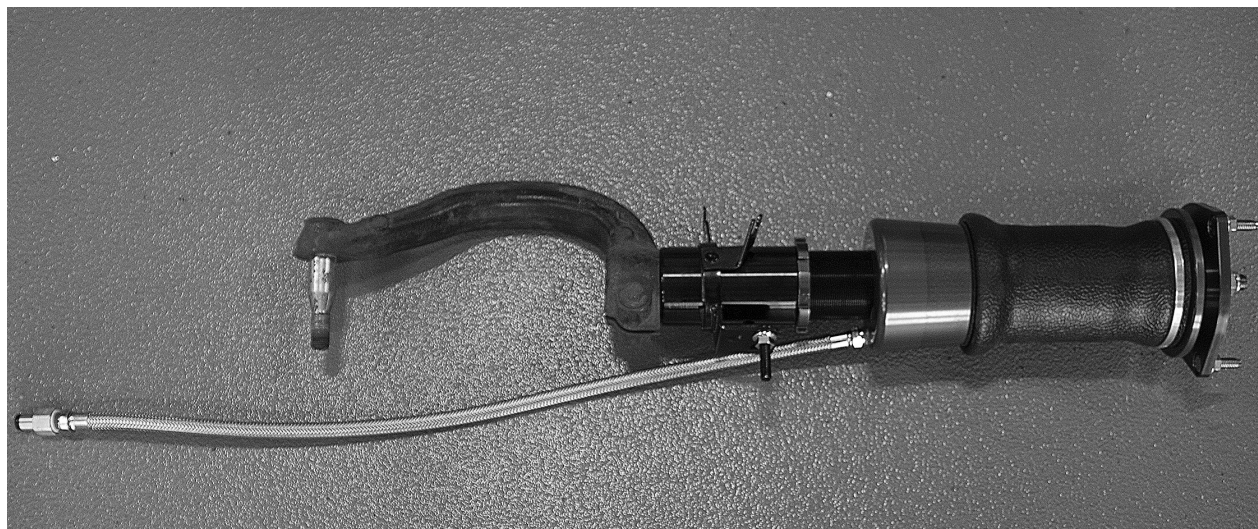

Fig. 13
2. Loosely attach the lower mount to the appropriate new shock. Make sure that it is oriented in the same way as the previously removed shock. Do not tighten the pinch bolt at this time (Fig. 13).